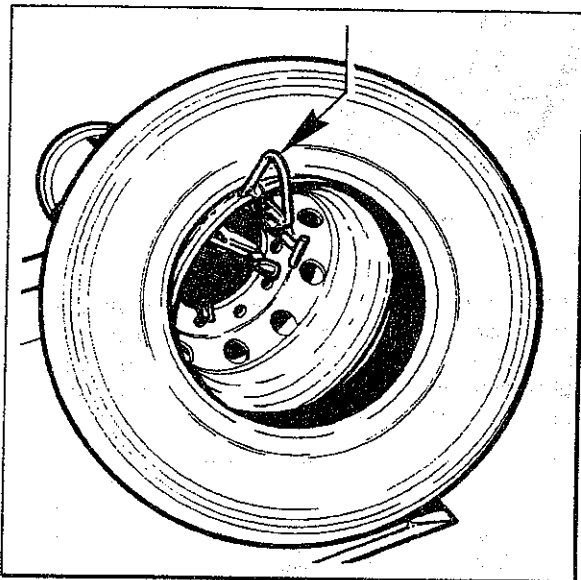

Fig. 28
2. Move the chuck arm all the way down. Roll the tire on the footboard and hang it onto the mounting clamp (Fig. 28).